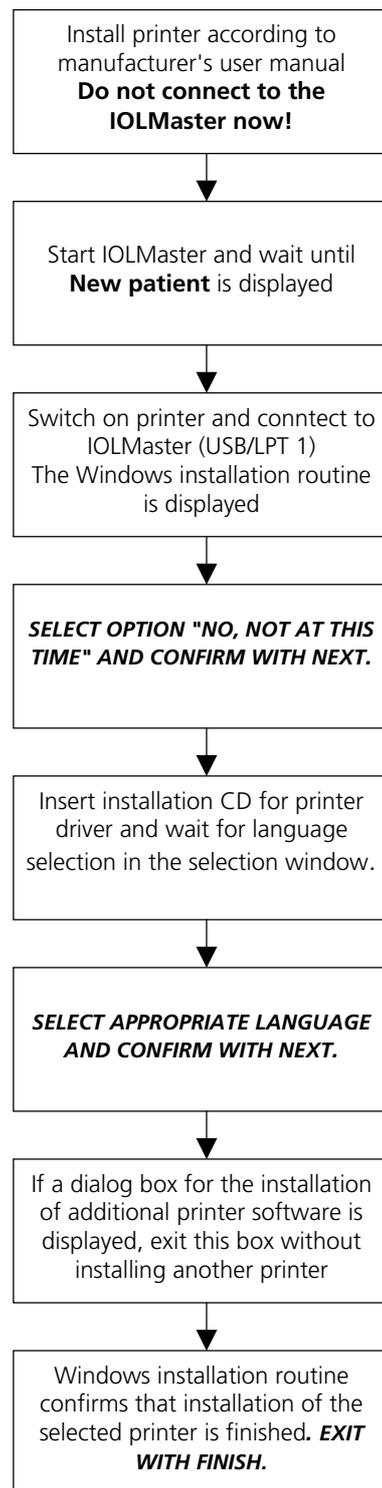

Fig. 8 Installing the printer
- Install printer as shown in Fig. 8.